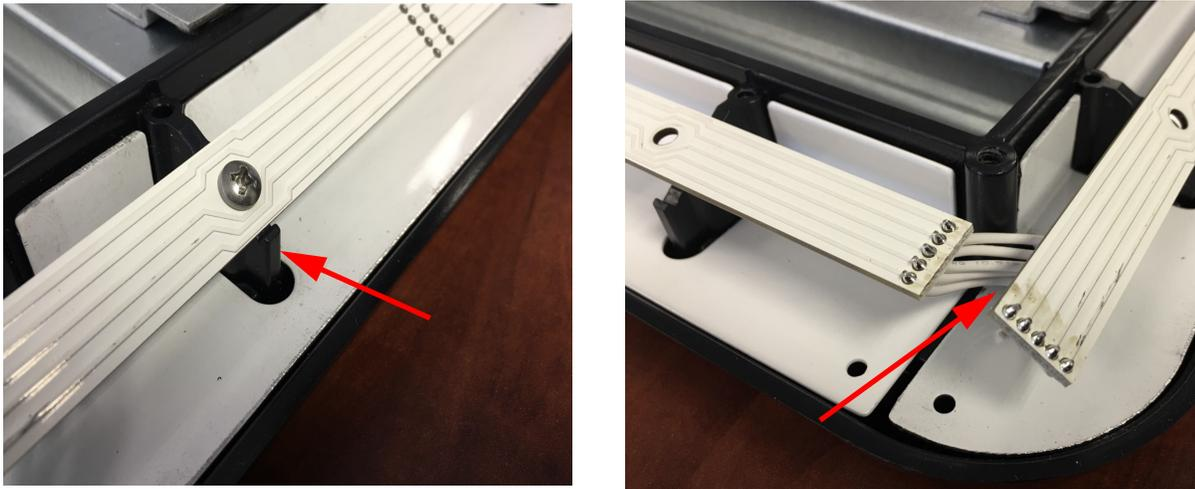

Figure 6
11.	Reassemble new RGBW lighting lenses in reverse order. Make sure lighting boards are flush to stop and corner wiring is neatly tucked in. see figure 6. DOT NOT OVER TIGHTEN SCREWS!